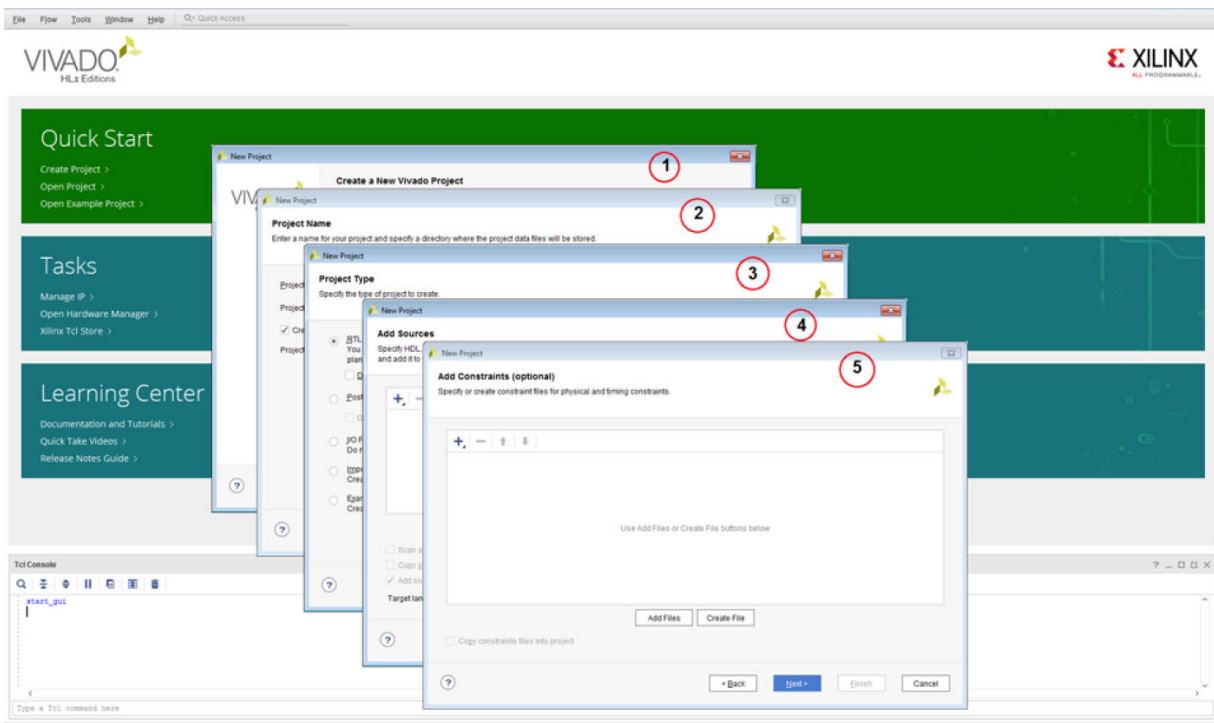

Figure 5-5: Creating a New Project
2. In the pop-up window, press **Next** five times, as shown in Figure 5-5.